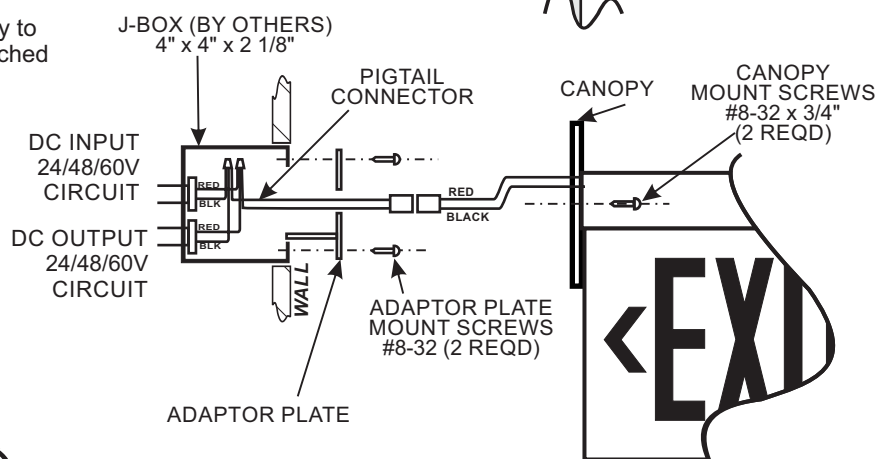

Fig.3
1. See fig.3. Follow WALL MOUNT steps 1-3.
2. Connect LED plug as shown in fig.3, route excess wire into j- box, and attach canopy with sign assembly to adaptor plate with 2 #8-32 color- matched screws supplied. Canopy should be flush with panel surface.